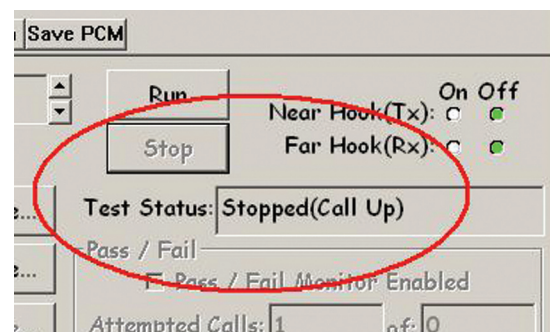

Figure 3.1.13
1. From the PCM 2, Channel 1 window that is running the Send/Measure Tone responder test press the stop button. Notice that while the test has stopped the call is still up as indicated in the Test Status field (see close-up figure 3.1.13).